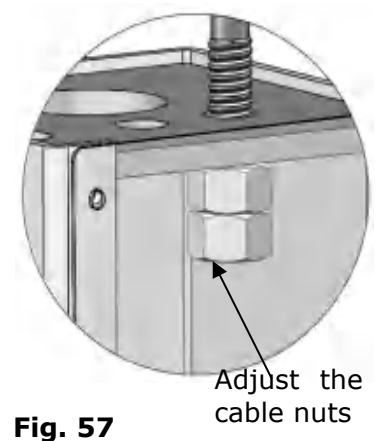

Fig. 57
1. Adjustment of sync cable (See Fig. 57)